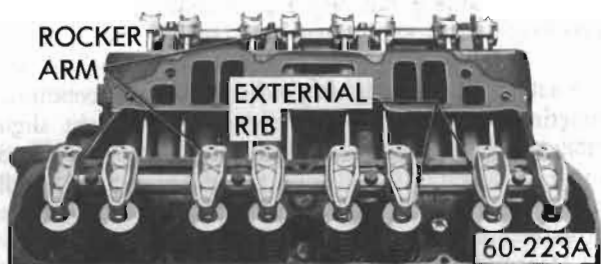

Figure 60-83 - Rocker Arms Positioned on Shaft
1. Install rocker arms on shaft lubricating all parts as they are assembled with engine oil. Each pair of rocker arms must be installed so that the external rib on each arm points away from the rocker arm shaft bolt. See Figure 60-83